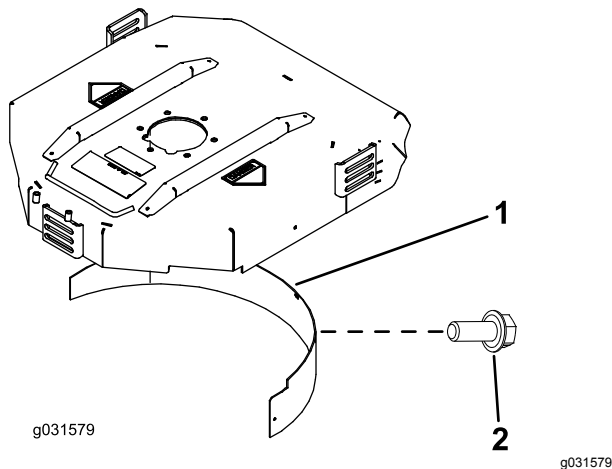

Figure 9
2. Install the mulching baffle in the rear opening and secure it with 5 flange-head bolts (Figure 9).